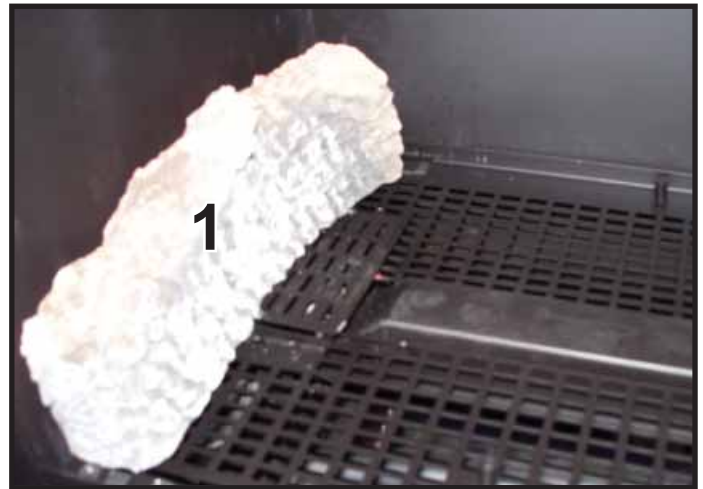

Figure 5. Log #1 (SRV2300-703) Left and Right Side Placement
12. **LOG #1 (SRV2300-703), QTY 2:** Install Log # 1. Place log so that the shoulder screws fit into the holes on the bottom of the log and the logs contact the firebox sides. Repeat for both ends of the media tray. See Figure 5.